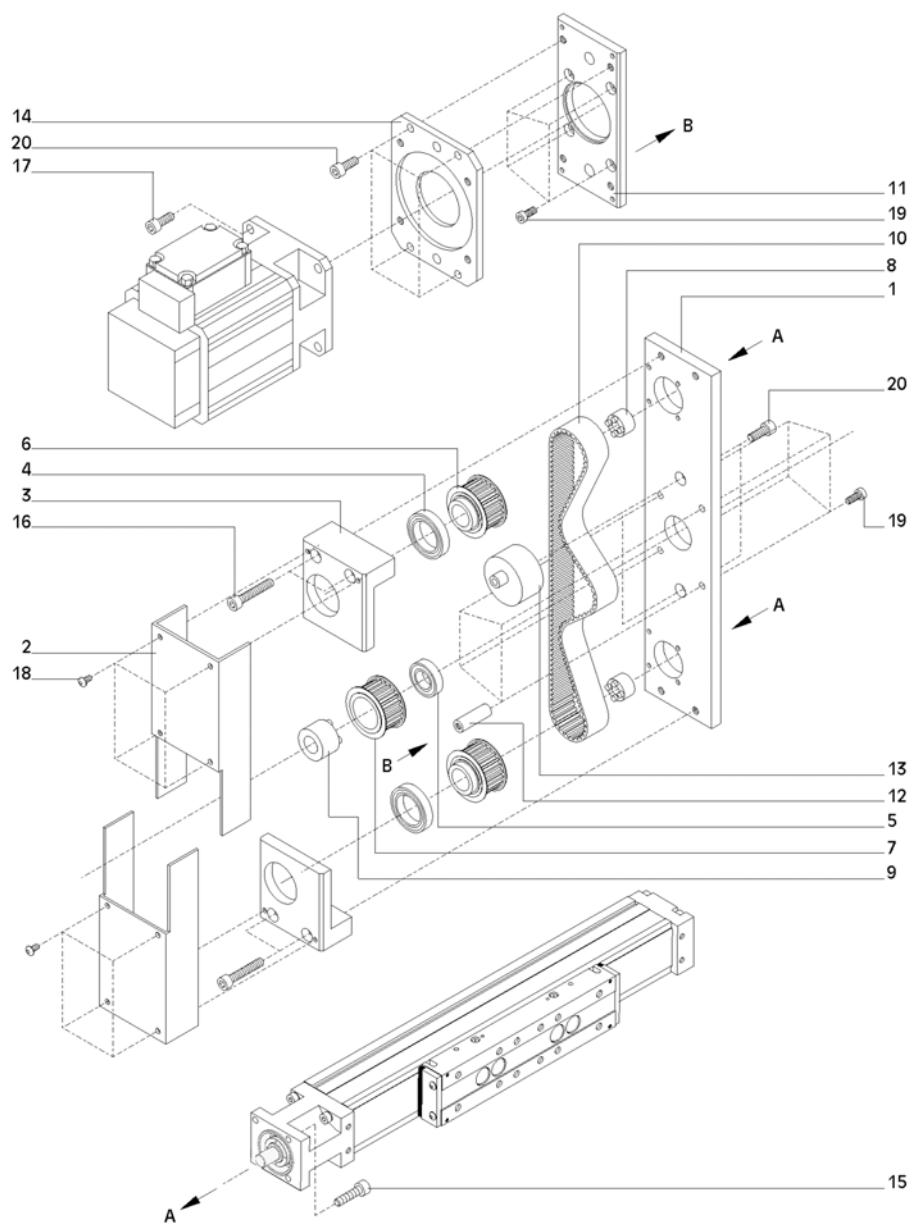

Fig. 10: Parallel belt drive PRT40
1. **Fig 10:** Detach screw (10) from tensioning roller, and tighten tensioning roller anticlockwise with a SW8 hexagonal wrench at 0.5 Nm, and tighten screw (10).
2. Attach cover plate (14) with 4 countersunk screws (15).